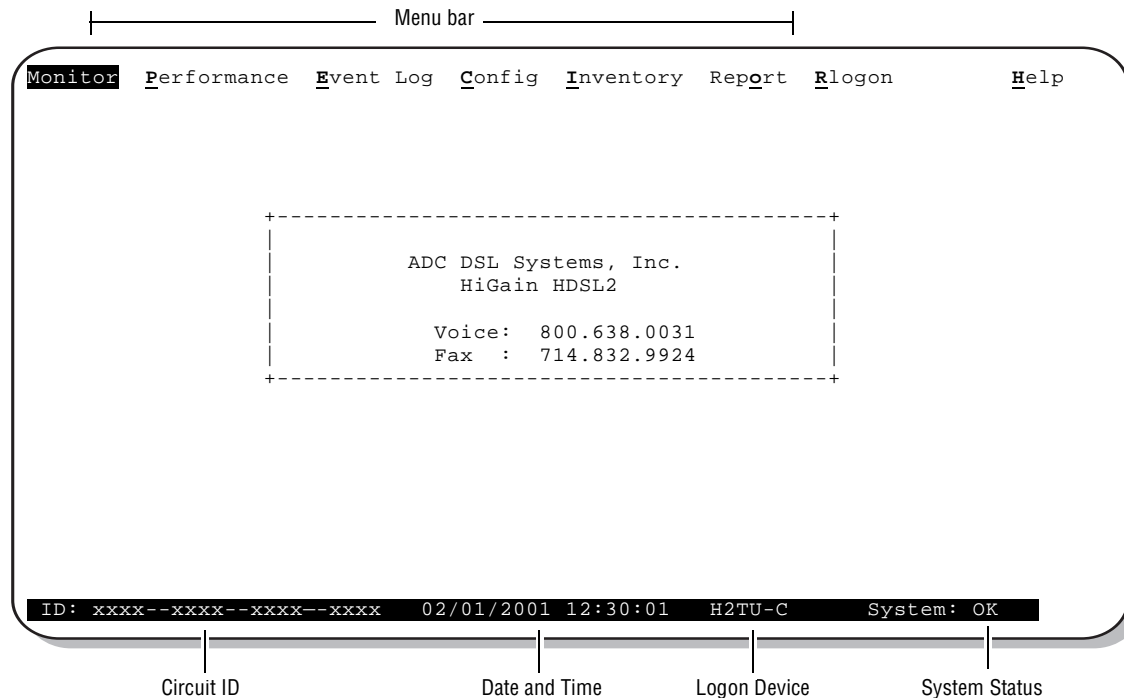

Figure 5. *Logon Screen*
- Using a maintenance terminal (ASCII terminal or a PC running terminal emulation software) connected to the H2TU-C craft port (or to an H2MU craft port) to access the HiGain maintenance screens (Figure 5 on page 10). Using a maintenance terminal allows you full access to all H2TU-C status, history, inventory, and provisioning screens.
To select a menu from the HiGain HDSL2 logon screen (Figure 5 on page 10), do one of the following: